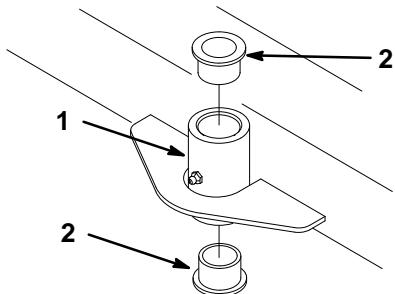

Figure 23
- Using a pin punch, drive the bushings out of the bracket (Fig. 23).
- Using a hammer and a flat plate, drive the bushings into the bracket (Fig. 23)